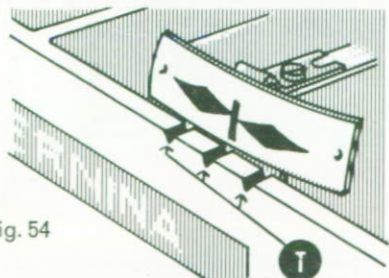

Fig. 54
In case you need to dismantle the machine completely, you'll notice on the upper arm three T-marks (Fig. 54). By means of these marks, the indicator can be set as described before, but opening and closing the upper arm cover is no longer necessary. The eccentric wheel (173) together with holding plate (172) can be taken out of the arm by pushing the bent part of tool (171) N 32 NU 24 through both holes in the plate and eccentric. Before replacing indicator, set scanner on cam no. 12. Whilst the needle tip almost touches the needle plate, the centre mark on the edge of the frame which is identical with the v-mark on the sight hole has to be opposite of the scale mark. After loosening pinion (155) replace indicator into machine and rethighten with both screws (174).
sewn tight enough. When sewing, each thread should lie close together. Is the seam sewn too tight then the eccentric (156) (Fig. 54) should be turned anti-clockwise. Loosen screw but don't unscrew it fully.